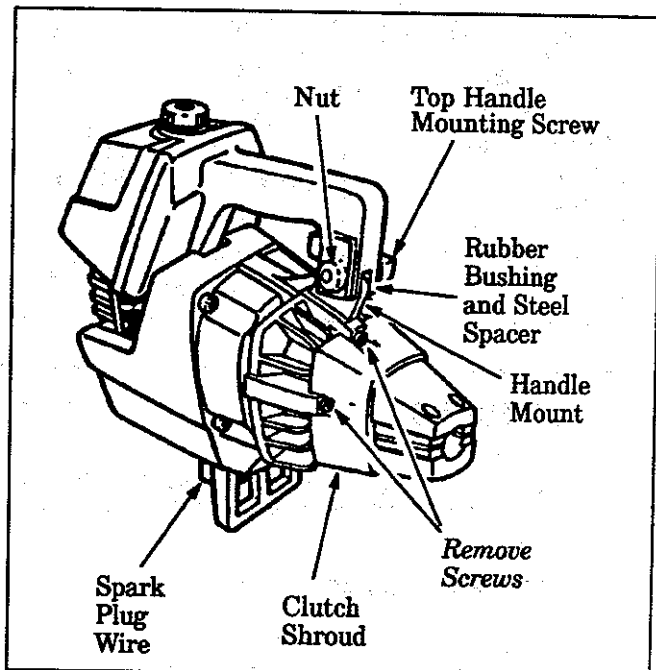

Figure 26
1. Disconnect Spark Plug Wire. Figure 26 .
2. Remove the Top Handle Mounting Screw and Nut, and remove the steel Spacer from the Rubber Bushing on the Handle Mount. Figure 26 .
3. Remove the four clutch shroud screws with the small hex wrench provided. Figure 26 .
4. Separate the Clutch Shroud from the Engine. Figure 26 .